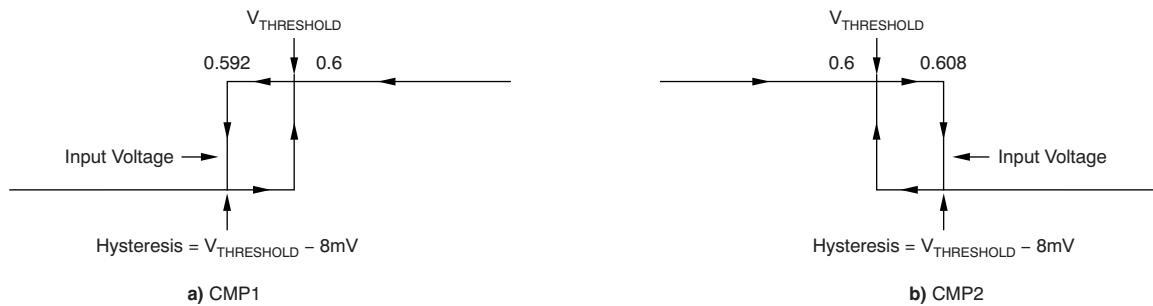

Figure 1. Comparator Hysteresis
(1) Hysteresis refers to the threshold (the threshold specification applies to a rising edge of a noninverting input) of a falling edge on the noninverting input of the comparator; refer to Figure 1.
(2) Specified by design; not production tested.
(3) See the Comparator Maximum Input Voltage Range section in the Application and Implementation.
(4) The comparator response time specified is the interval between the input step function and the instant when the output crosses 1.4 V.